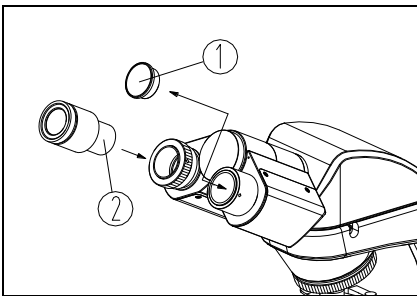

Fig.4
1. Take down the cover of eyepiece tube (1).
2. Insert the eyepiece (2) into the eyepiece tube, until touch the bottom (See Fig. 4).